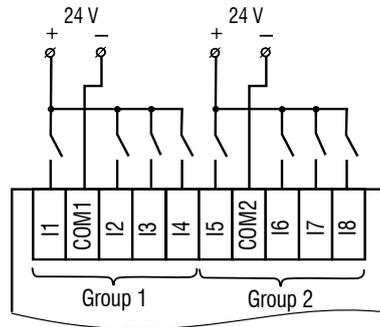

Fig. 5.2 Switch contact connection
- Electrical connections for inputs and outputs are given in Fig. 5.2 – 5.14.